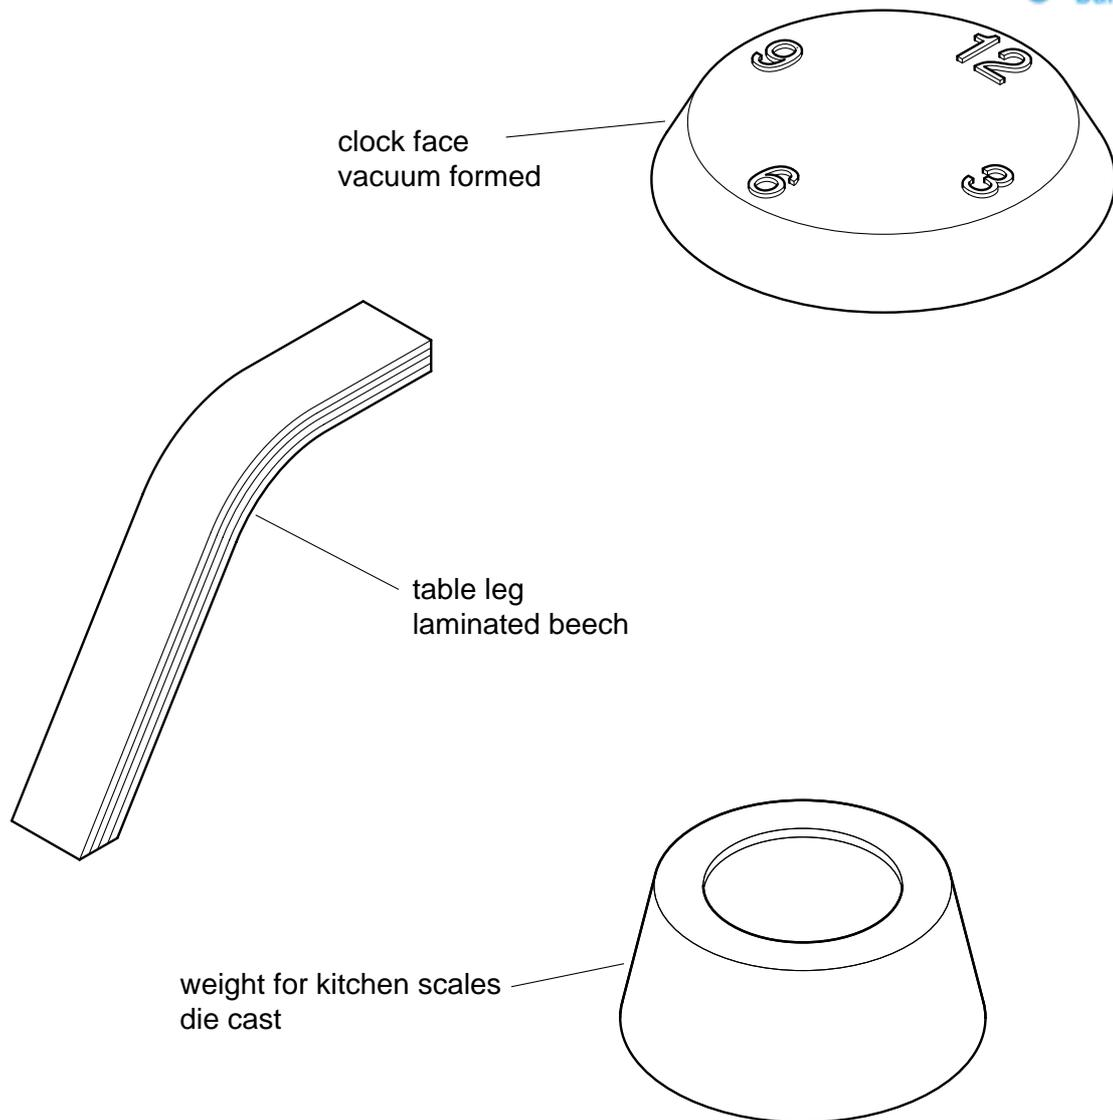

**Fig. 2**
2 Fig. 2 shows a cyclist riding a bicycle.
- (a) Identify **four** examples from Fig. 2, and explain for each, why the designer would have used anthropometric data. [12]